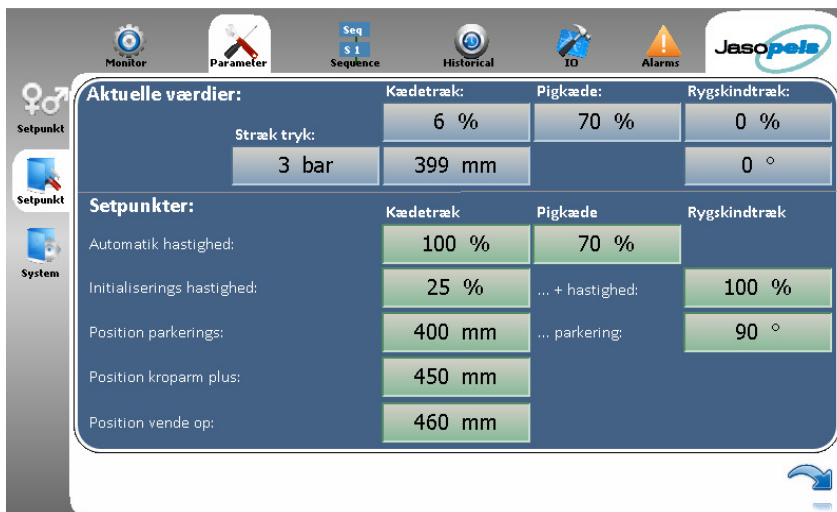

Fig. 7 Current values
- In fig. 7 you can see the possibility of changing the machine's various set points by pressing the green bars. To end, press Enter.